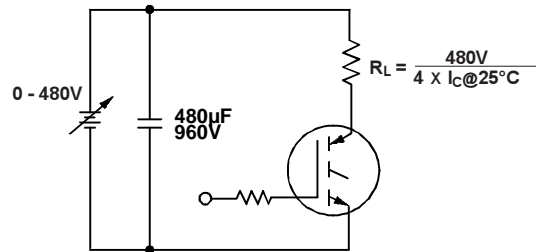

Fig. 13b - Pulsed Collector Current Test Circuit
- ① Repetitive rating; V_{GE} = 20V, pulse width limited by max. junction temperature. (See fig. 13b)